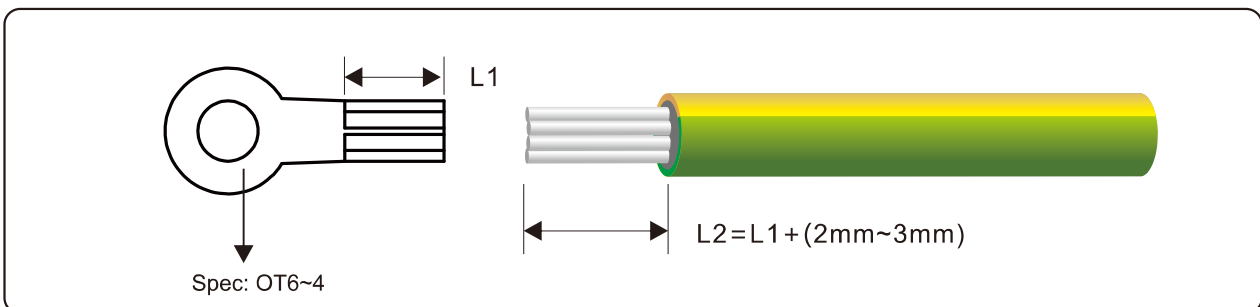

Figure 5.1 Stripped length (unit: mm)
**Step 1** Remove an appropriate length of the insulation layer from the PGND cable using a wire Stripper; the length should be 2mm~3mm longer than OT terminal's crimping end, as shown in Figure 5.1.